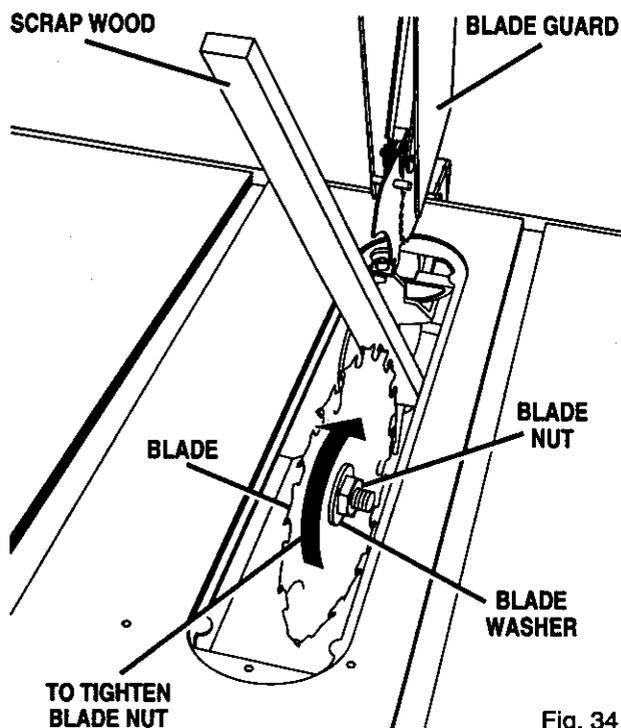

Fig. 34
- To install a standard blade, place the new blade on the arbor shaft, with teeth pointing down toward the front of the saw. Wedge a piece of scrap wood at the back of the blade. See Figure 34.